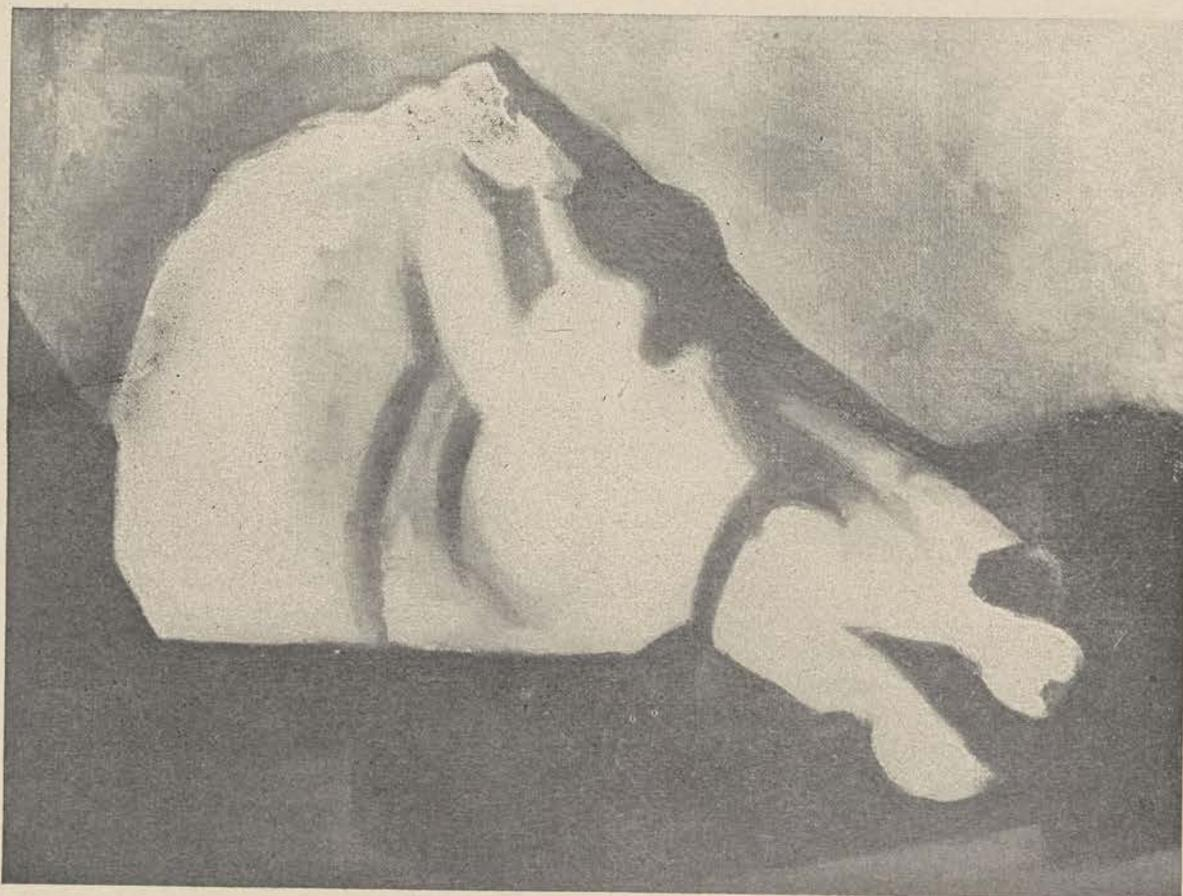

Figure 244.
*a.* For instructional purposes we have selected a cast of a horse's head made of plaster (fig. 244).